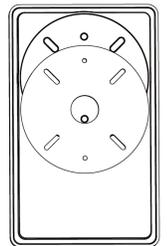

Fig. 3
4. Peel off the yellow sticker and paste the foam gasket on the round area of the bottom plate (Fig. 3).